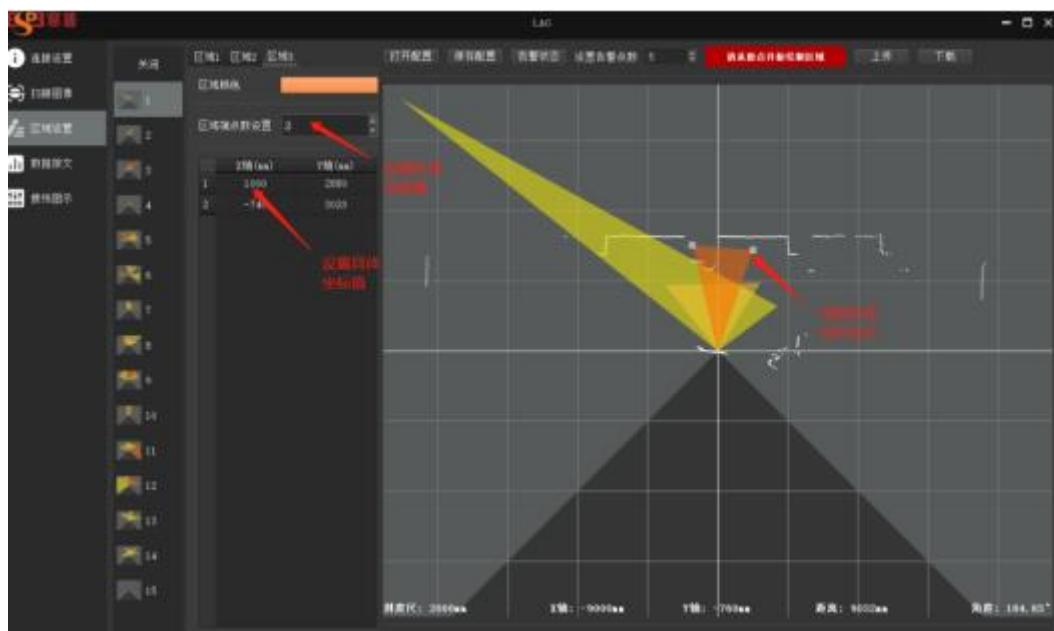

Figure 19: To set the area
2. Set the three areas in area group 15, and each area can be set with up to 30 points at most. And for each point, the coordinates can be inputted or directly pulled with the mouse in the display area, as shown in Figure 19.